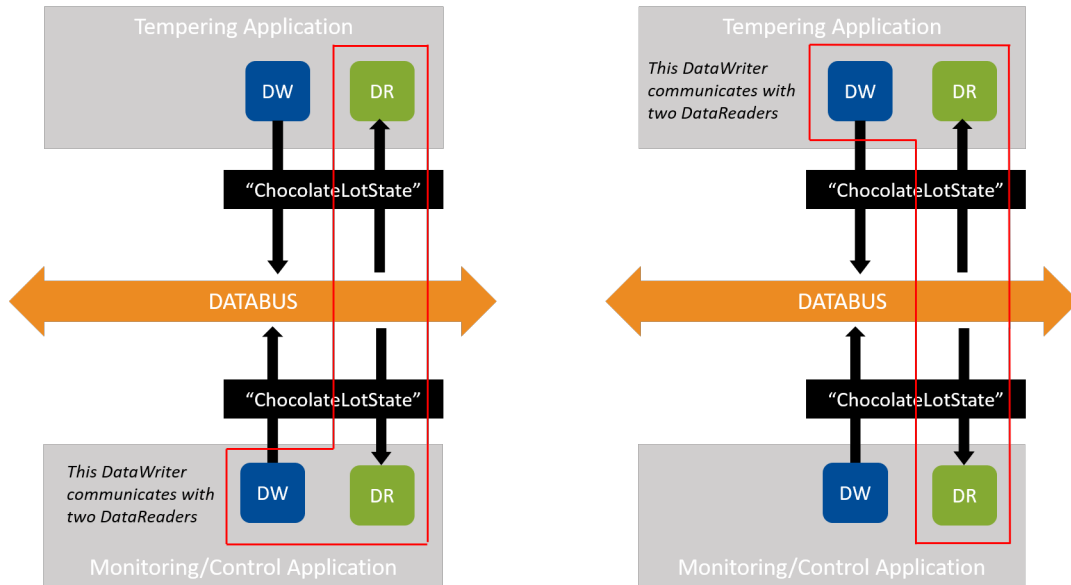
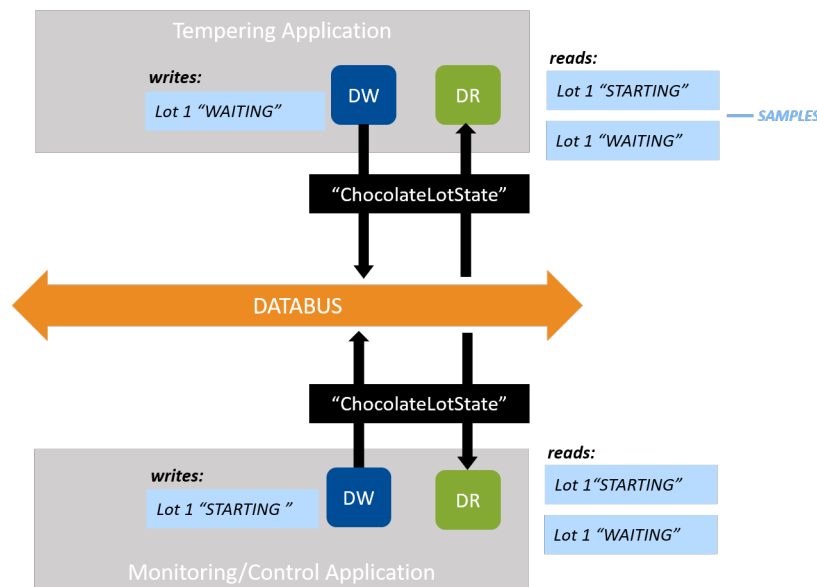

Figure 4.5: In our example, the *DataWriter* in each application communicates with two *DataReaders*—one in its own application and one in another application
Figure 4.6: Notice that both *DataWriters* are communicating with both *DataReaders*
**Note:** Figure 4.5 and Figure 4.6 demonstrate that it doesn’t matter where the matching *DataWriters* and